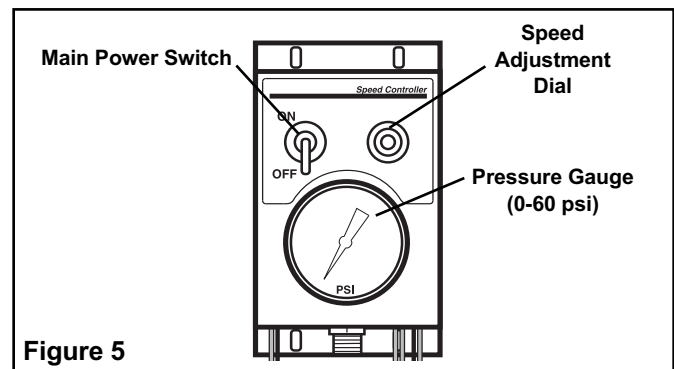

Figure 5
1. Rotate the speed adjustment dial fully counter clockwise (See Figure 5).
2. Set the main power switch to the **ON** position (See Figure 5).
3. Slowly rotate the speed adjustment dial clockwise until the desired pressure is indicated on the pressure gauge (See Figure 5).